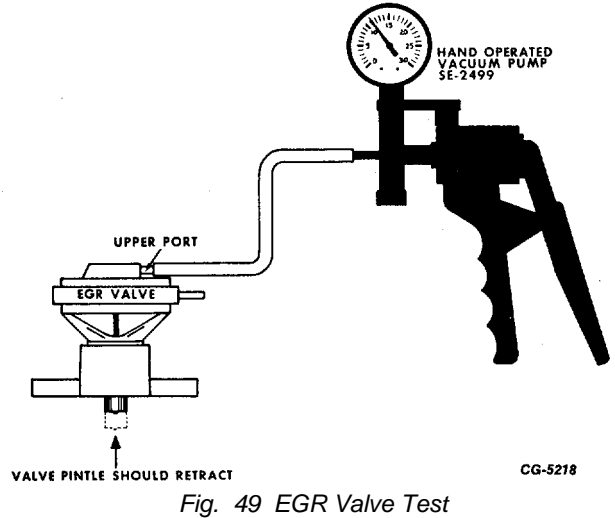

Fig. 49 EGR Valve Test
- b. Apply 10-12" vacuum to EGR valve vacuum port (upper port of dual diaphragm valve). As vacuum is applied, valve pintle should move off seat and retract into valve housing (Fig. 49). If valve does not operate when vacuum is applied, valve is faulty and should be replaced.